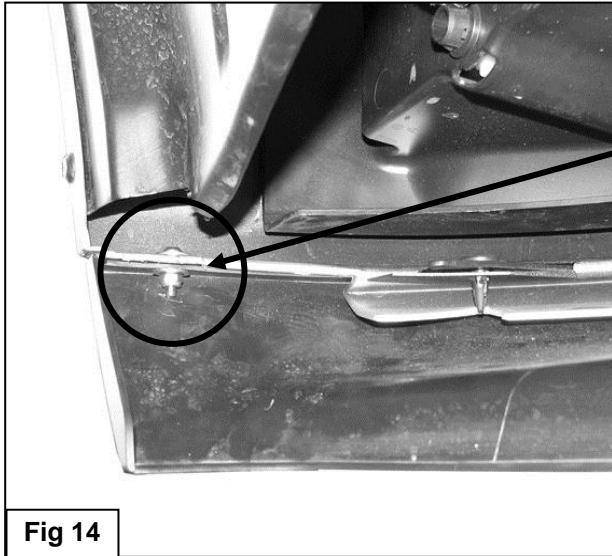

Fig 14
8. Reinstall the splash guard using the factory hardware. Use the included (2) 5mm x 15mm Allen Bolts, (4) 5mm Flat Washers and (2) 5mm Lock Nuts at the ends of the splash guard if required, **(Figure 14)**.